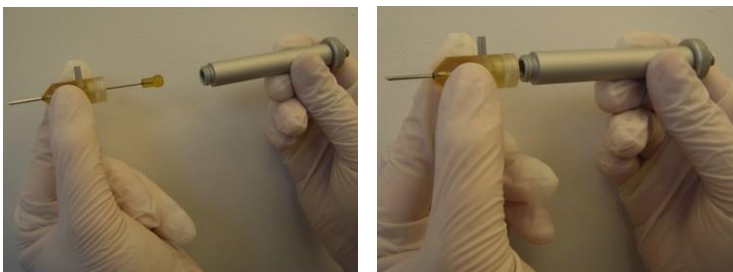

Figure 3-79. Connecting the Head to the Handpiece Body
3. Connect the implanter head to the handpiece body, by inserting the base of the piston into the handpiece, as shown in Figure 3-79.